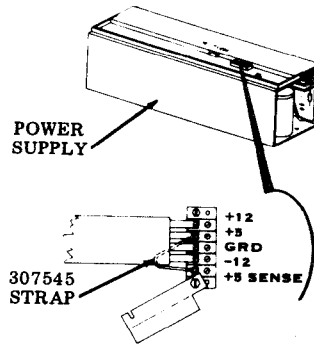

Fig. 61
Step 5 — Loosen insulator screw and swing insulator aside. Mount ribbon cables and strap to terminal block. Replace insulator. Tighten screw (Fig. 61).